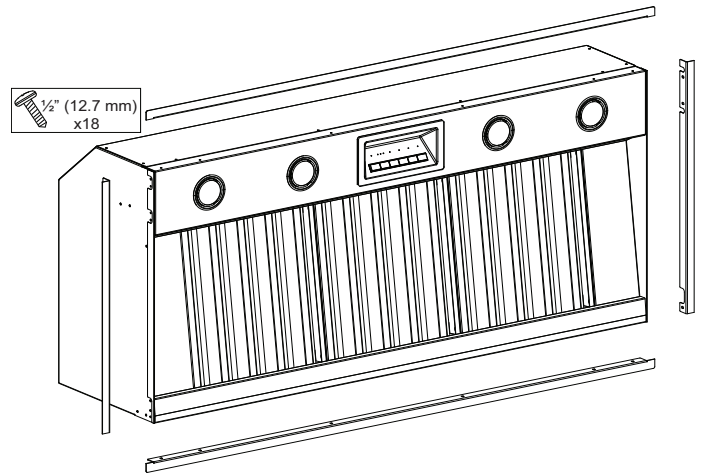

Figure 25: VCIN Trim Installation
- a) Hold trim flush to the bottom of the housing. Secure the trim to the hood with eighteen (18) x ½” (12.7 mm) screws, as indicated in Figure 25.